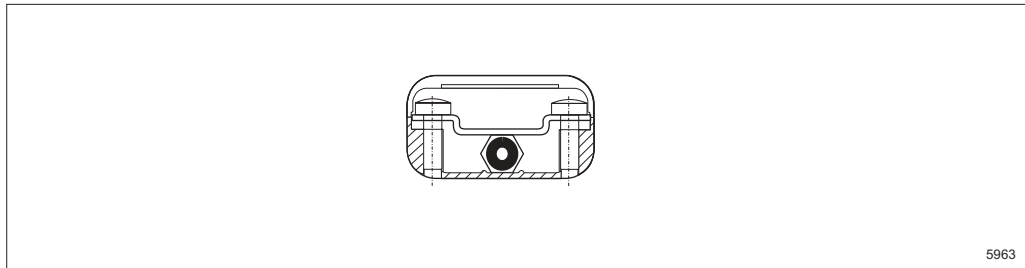

Figure 187 Positioning the cables in the connector casing
21. Position the cable in the connector casing as shown in Figure 187 on page 188.